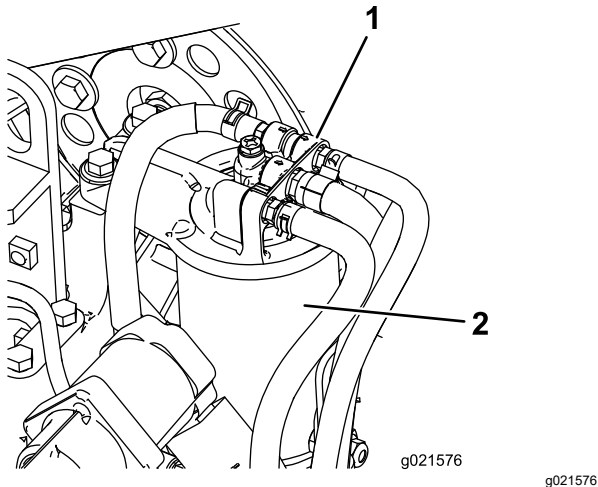

Figure 76
1. Clean the area around the fuel-filter head (Figure 76).
2. Remove the filter and clean the filter head mounting surface (Figure 76).